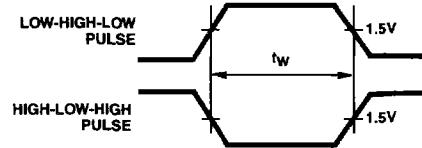

FIGURE 3. PULSE WIDTH
**Switching Specifications**  $t_r, t_f = 2.5\text{ns}$ ,  $C_L = 50\text{pF}$ ,  $R_L$  - See Figure 3